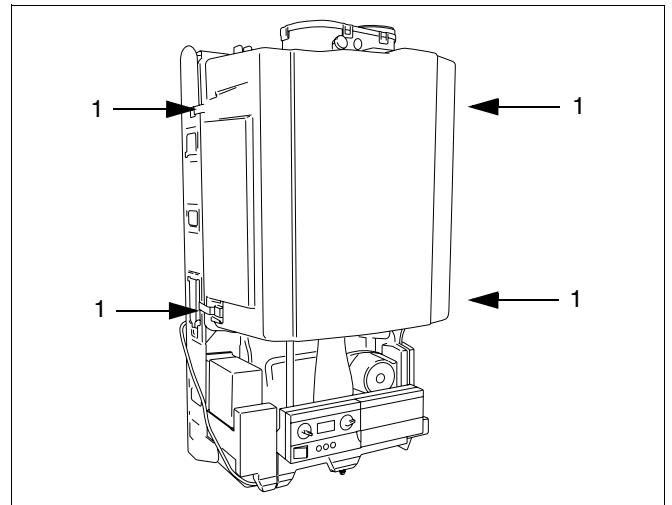

fig. 29 Remove ventilation cover
- Remove the ventilation cover (→ fig. 29).